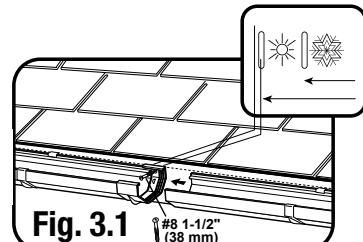

Fig. 3.1
- Fasten joiners directly to fascia using #8 x 1-1/2" screws (Fig 3.1).